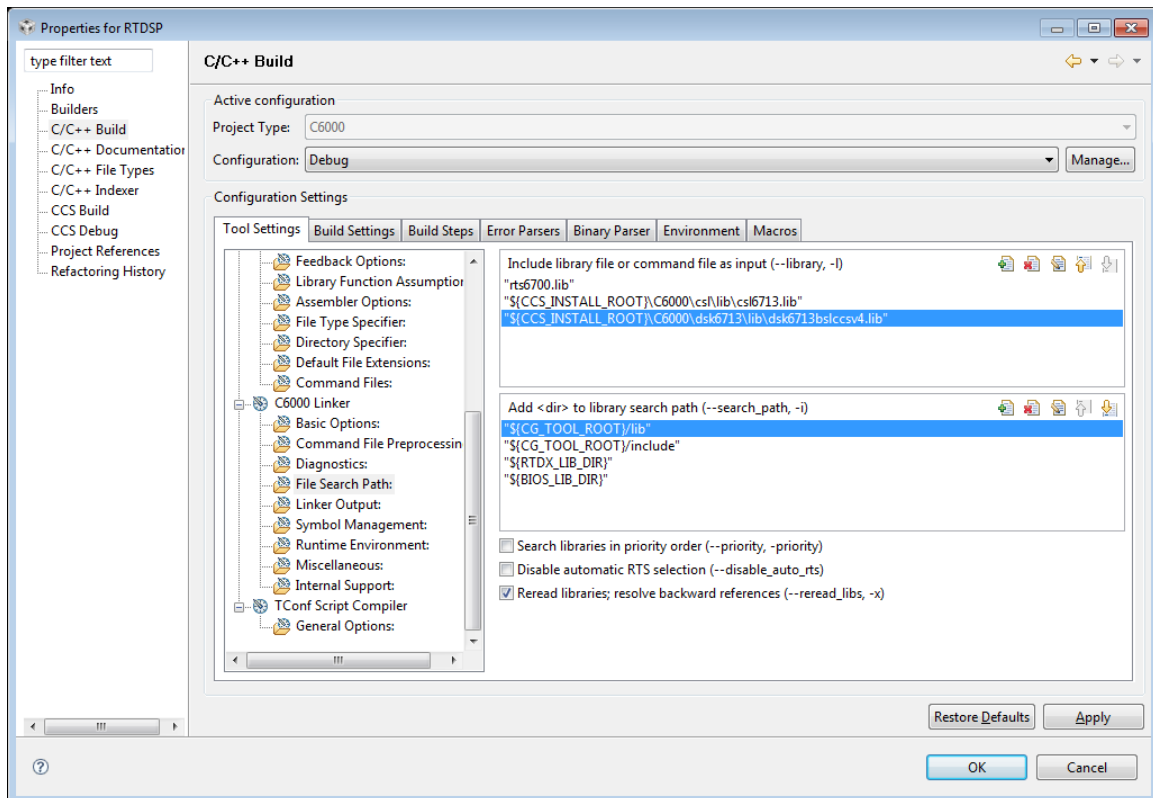

Figure 7: Linker includes
- Add the 2 paths shown in figure 7 into the include library file window. (A text file *compiler-linker.txt* was included in the lab zip file so that you can copy and paste the text if you wish)